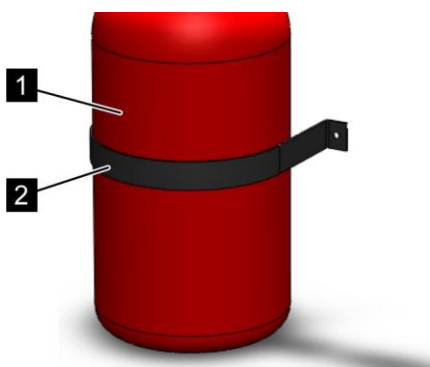

Fig. 195: Remove the clamp
8. ➤ Remove the clamp (Fig. 195/2) and carefully place the extinguishing agent container (Fig. 195/1) to the side.